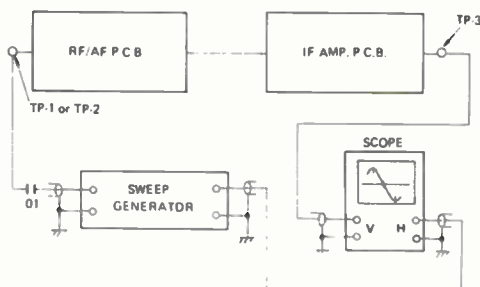

FIGURE 3. IF SECTION ALIGNMENT TEST EQPT. HOOK UP
Step 1: Connect the instruments as shown in Figure 3.